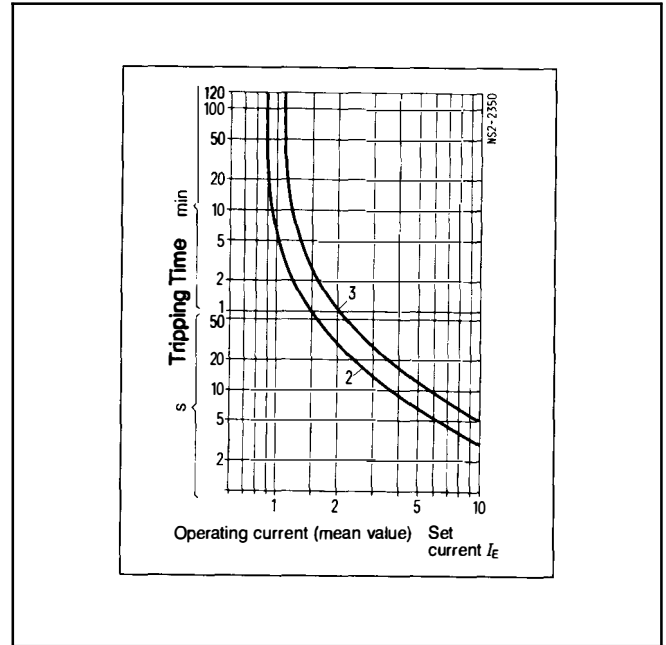

Figure 31. 3UA Overload Relay Time-Current Tripping Curves
In addition to motor overload protection, the internal trip mechanism provides motor single phase protection. Referring to Figure 31, Curve 3 shows the normal three phase time-current tripping relationship. The relay senses a loss of phase condition and shifts the time-current tripping response curve to the left as shown by Curve 2. As a result of this curve shift and the higher single phase current, the tripping time of the overload relay will be reduced.
4. Energize the relay with test current between 125% and 1000% of the overload relay trip setting and measure the time to trip. The test trip time should be approximately equal to the average tripping time shown on curve (3) in Figure 31.
6. The overload relay may be tested with single phase test current applied to individual poles. In this case, test tripping time should be approximately equal to the average tripping time shown on curve (2) in Figure 31.